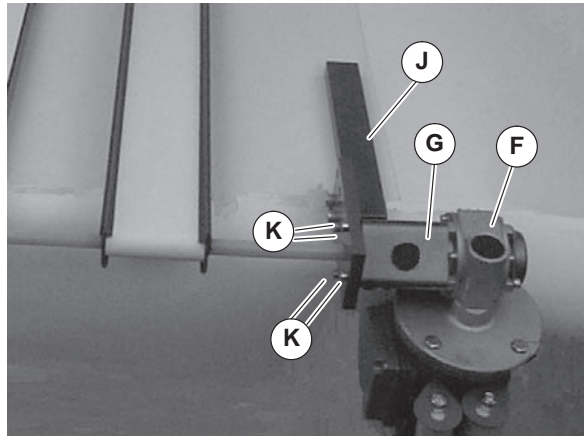

Figure 29
11. Attach gearmotor support assembly (Figure 29, item J) and guard tube (G) to gearmotor assembly (F). Tighten screws (K) to 103 in-lb (12 Nm).